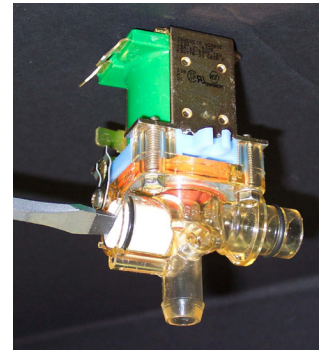

Figure 1. Adjustment
1. Loosen the screw on the metal guard. Rotate away from the adjustment screw (fig. 1.).